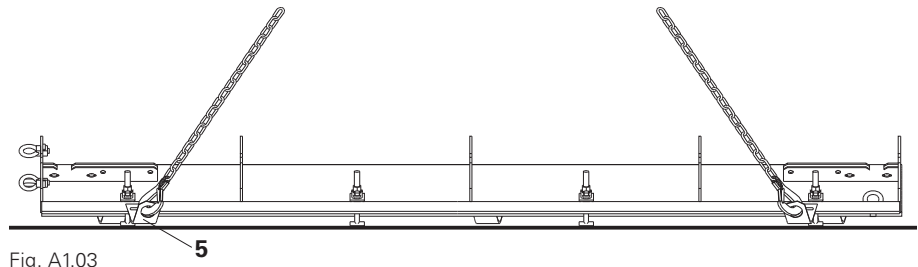

Fig. A1.03
- in stacks with the crane (5)
- with a fork-lift truck (Fig. A1.03 + A1.04)